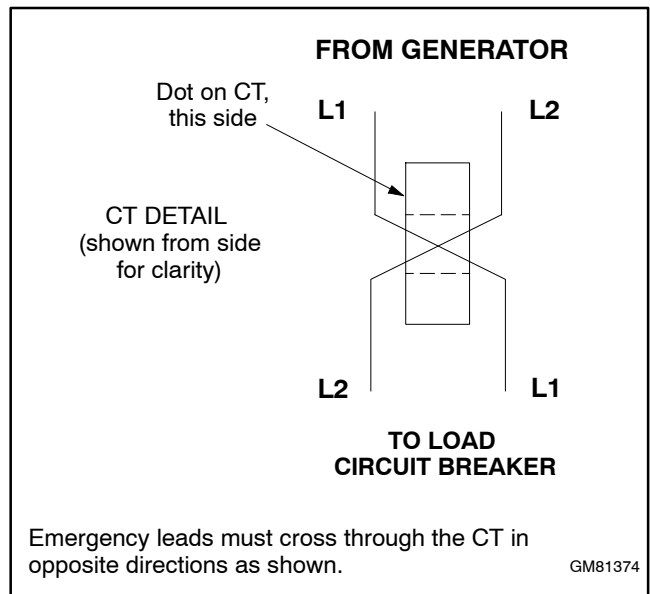

Figure 5 Load Lead Routing through Current Transformer (CT)
3. Install one current transformer (CT) (GM86609) inside each generator set enclosure. Install the CT below the customer-connection terminal block in the air intake area of the generator set.
- a. Load lead L1 from the generator should enter the CT on the side with the dot. See Figure 5.
- b. Load lead L2 must pass through the CT in the opposite direction from L1 as shown in Figure 5.